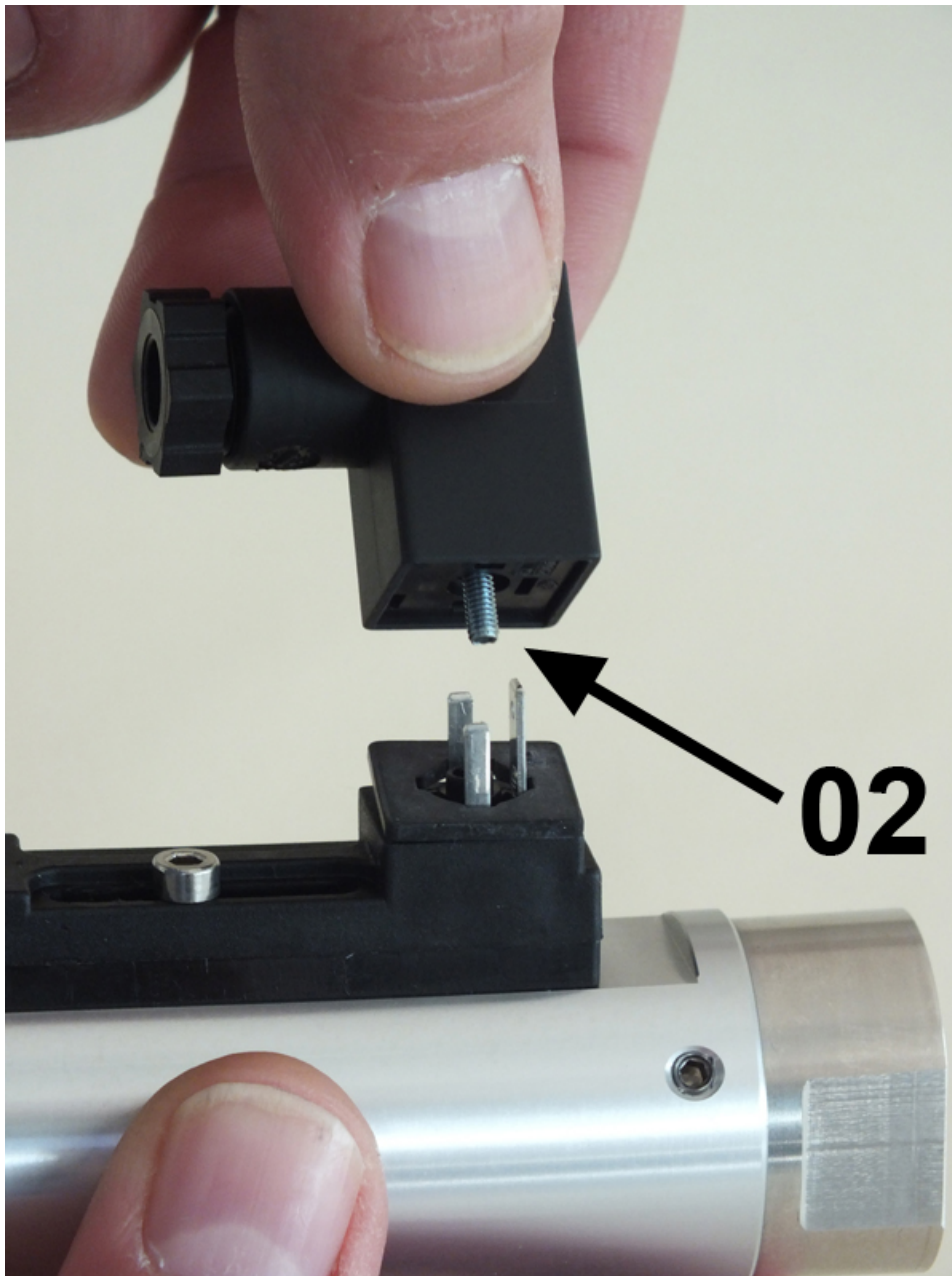

Fig. 54: Remove the female socket
- 2.** ➤ Remove the female socket and gasket (*Fig. 54/02*) by pulling upwards.